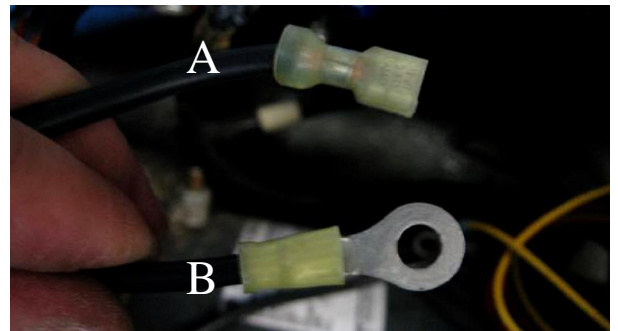

Figure 23
11. Use electrical pliers to cut the female spade terminal (**Figure 23-A**) off of both of the Field wires. Strip 5mm of sheath off of the end of both wires and slide the ring terminal supplied on to the end of the wires. Crimp the ring terminal on to both wires (**Figure 23-B**).